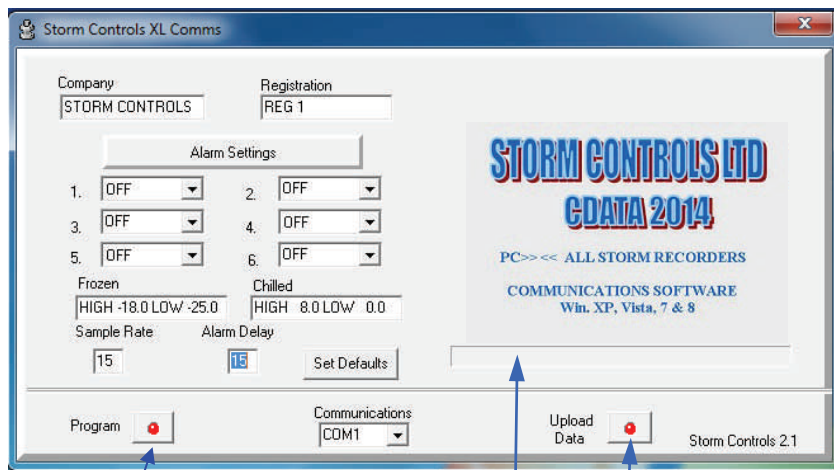

FIG 2
Downloading New Parameters from the PC. or Laptop to the Recorder. See Fig 2. Page 6
2.2 Uploading Data stored in the Recorder to your P.C. See Fig 2 Page 6